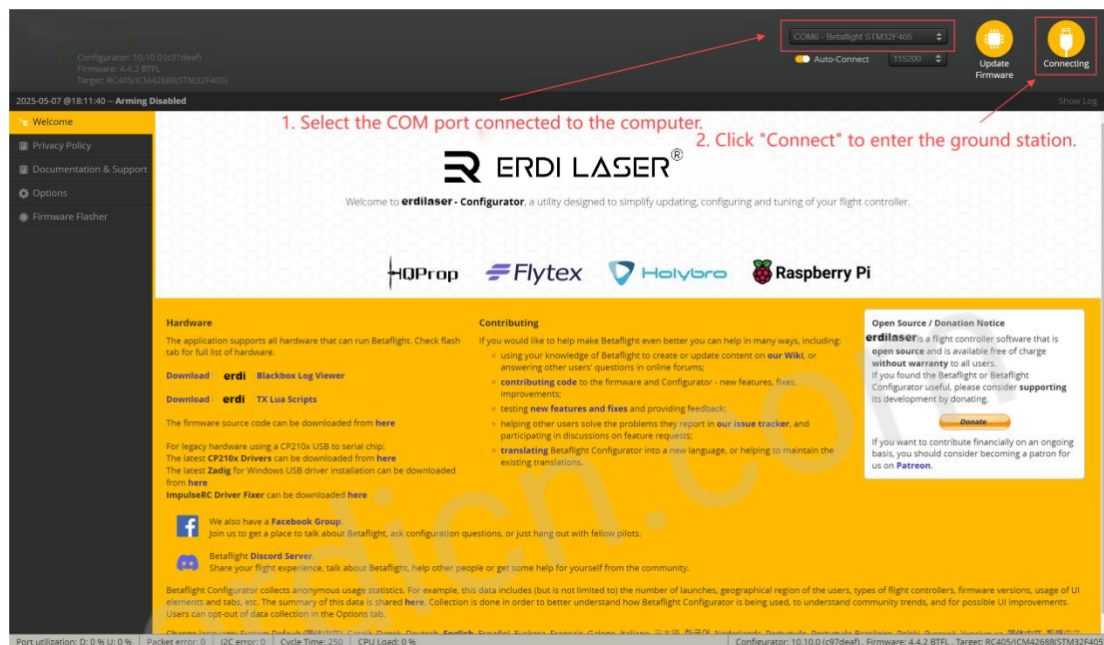

Fig 7.1.1 Connecting to Beta Flight
Step 1: Open Beta Flight, select the corresponding COM port, and then click "Connect", as shown in Figure 7.1.1.